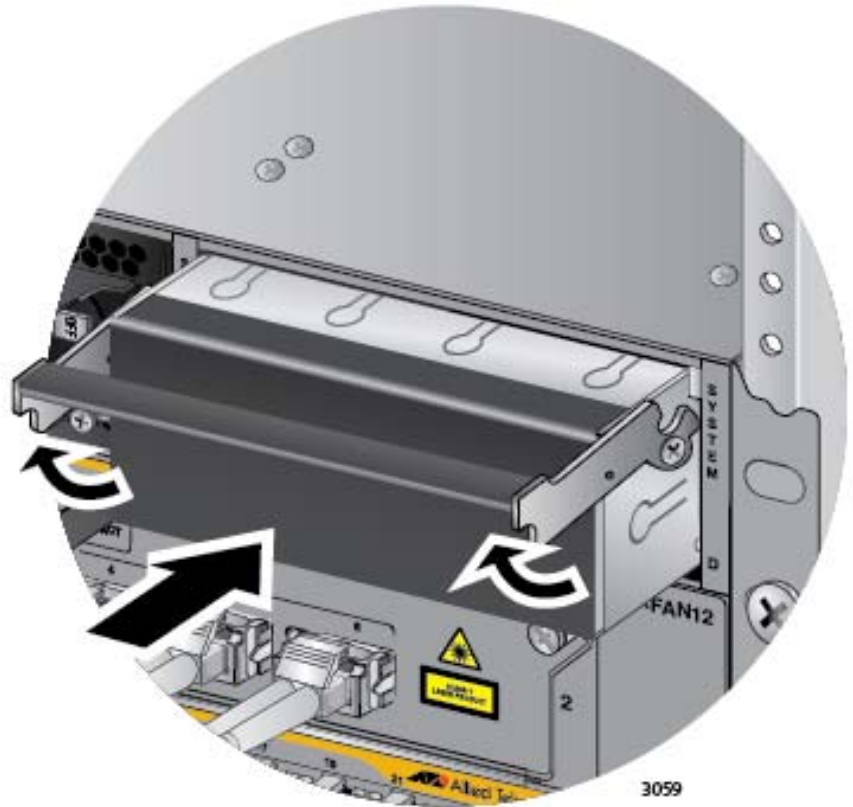

Figure 143. Installing a Blank Power Supply Slot Cover
13. Place the locking handle on the slot cover in the up position and slide the cover into the empty power supply slot. Refer to Figure 143 on page 227.